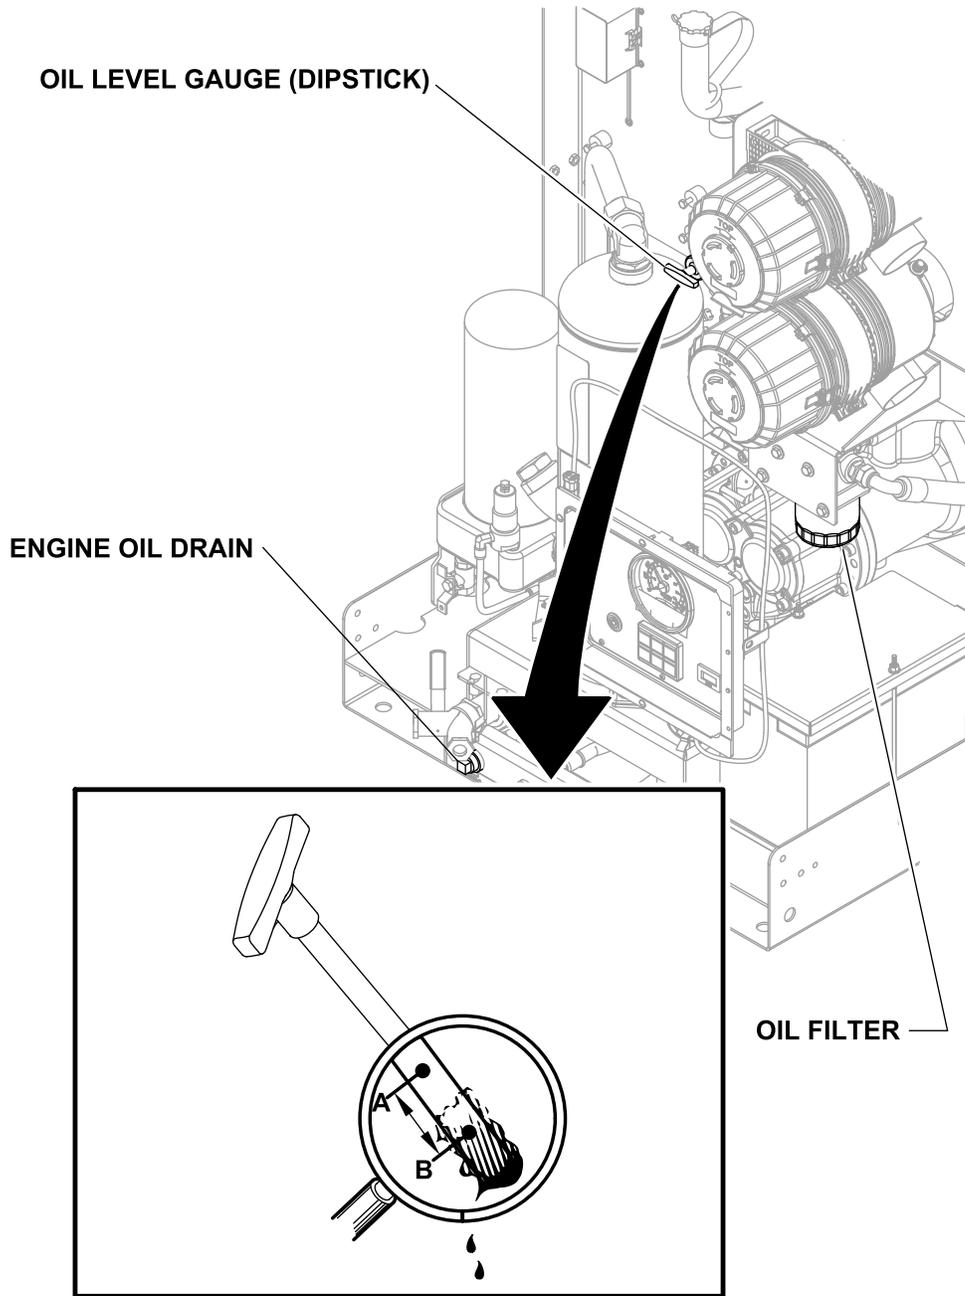

FIGURE 4-6: FINAL INSPECTION FOR LEAKS
4. Check the engine oil level with the oil level gauge (dipstick) (See Figure 4-6).